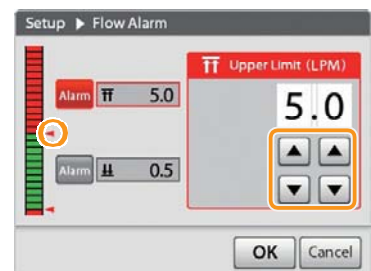

Figure 3-3
3. Tap or to input the upper limit value you want to set. (Figure 3-3)